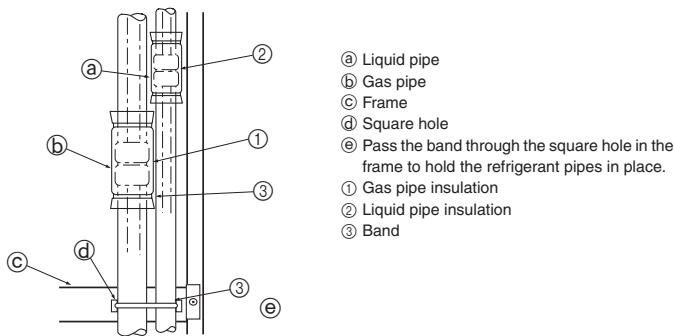

Fig. 4-5
- When reassembling, hook the air intake grill hangers ③ onto the holes in the sides of the panels.
Insulate flare joints ① and ② of the gas and refrigerant pipes completely. If any part of the joints are exposed, condensation can drip down. (Fig. 4-5)
- Fasten the gas pipe insulation ① and the liquid pipe insulation ② at both ends so that they will not slip and align with one another.
- After the insulation is installed, use a band ③ to fasten the refrigerant pipe to the frame (below the pipe joint section). This will prevent the refrigerant pipe from lifting up off of the frame.